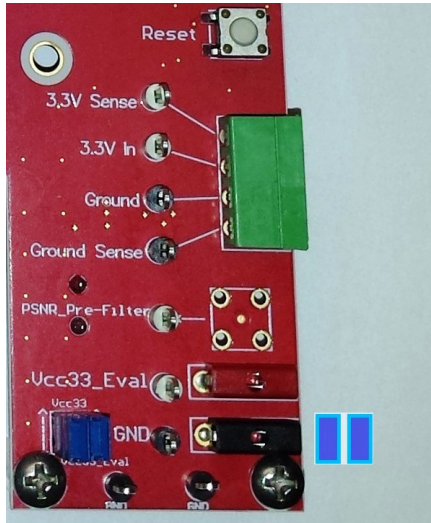

Figure 3. Evaluation Board Jumper Configuration, single supply
5. 2x jumpers to set up DC power inputs (Figure 3)